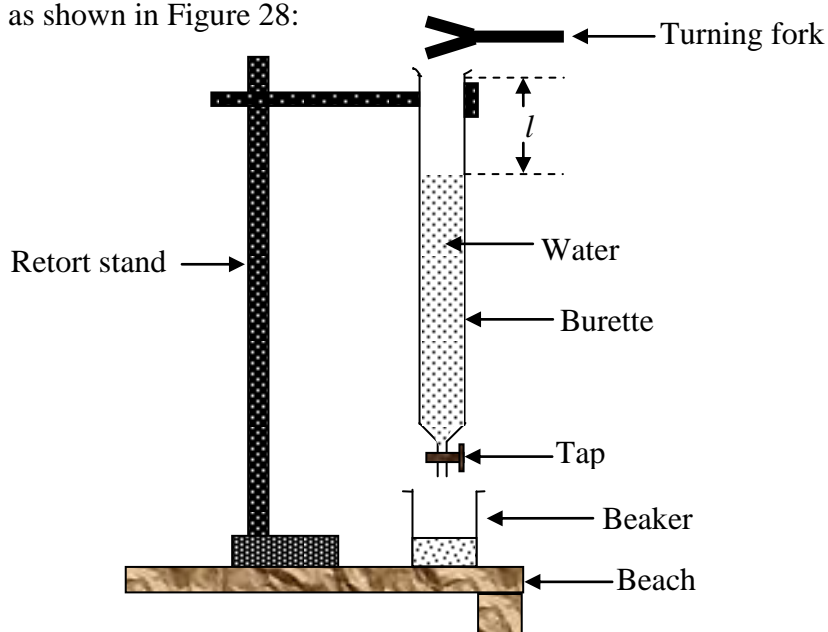

Figure 28
- (a) Set up the apparatus as shown in Figure 28: